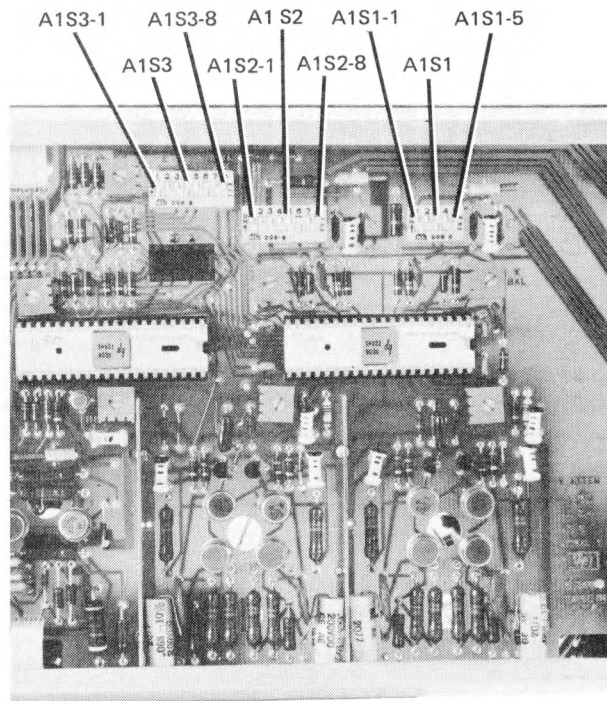

Figure 3-1. Input Attenuation and Bandwidth Selection Switches
The instrument is normally shipped with the input attenuator switches set for the 1-volt full scale, high-input impedance configurations. For other input configurations refer to table 3-1 and figure 3-1.
**3-7. BANDWIDTH REDUCTION.** In certain cases, the full 3-MHz bandwidth of the deflection amplifiers is not required. In fact, in some applications it may be desirable to reduce the bandwidth to eliminate system noise problems. The X- and Y-amplifier bandwidth can be limited by engaging the following input attenuation and bandwidth selection switches (see figure 3-1 for switch location):
**3-8. INPUT POLARITY SELECTION.** The X-, Y-, and Z-amplifiers can be conditioned by the input attenuation and bandwidth selection switches for input signals with different polarities. To condition the equipment for different polarity signals, set applicable switches as indicated in table 3-2. (See figure 3-1 for switch location.)